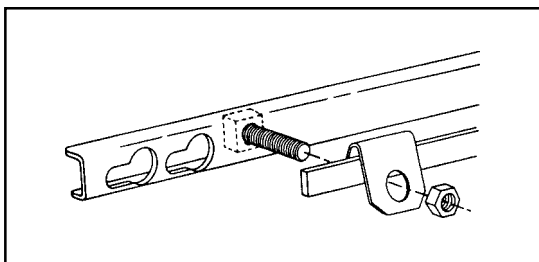

FIGURE 41 – PROPER ALIGNMENT OF PARTS
15.03 For external bonding, the bolt, bonding clip, and nut must be applied to the front (keyhole) LOCKBAR Assembly before mating it with the back LOCKBAR Assembly. Special holes are provided on either side of the front LOCKBAR Assembly for this purpose. The bolt head is applied inside the LOCKBAR Channel. The bonding clip and nut are applied to the bolt on the outside LOCKBAR Assembly face. Refer to Figure 41 for proper alignment of parts.